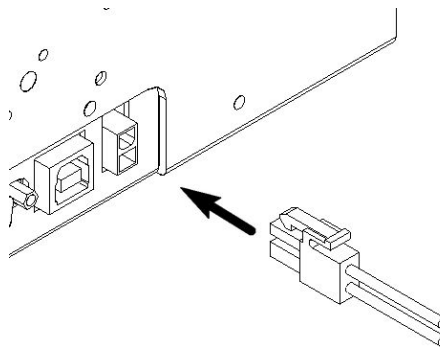

Figure 4.5-1 Connecting power adapter
- 2) Insert the power adapter cable into the power interface at the bottom of the printer as shown in the figure 4.5-1;